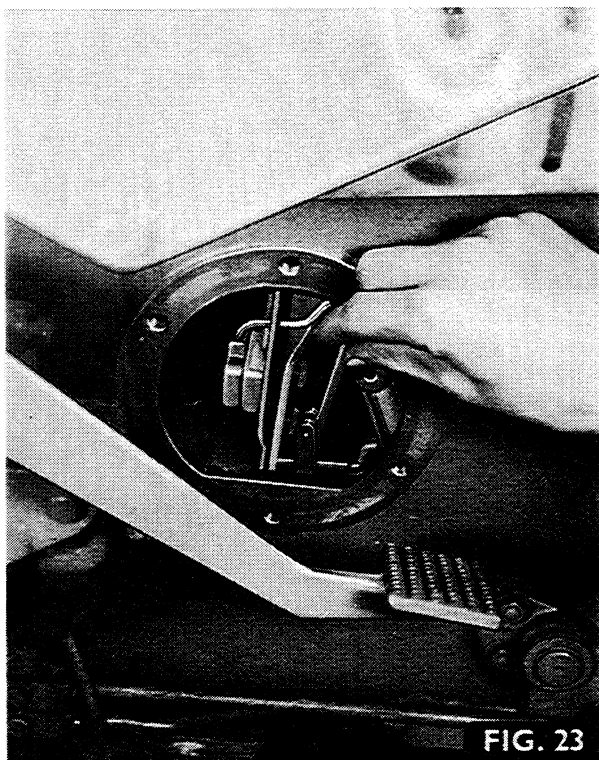

FIG. 23
10. Remove the five bolts (61) and the screw (59) securing the inspection cover (60) to the centre housing and remove the cover.
11. Fig. 23. Remove the valve actuating roller using tool MF 271 as shown.
7. Fig. 23. Refit the valve actuating roller using tool MF 271 as shown.